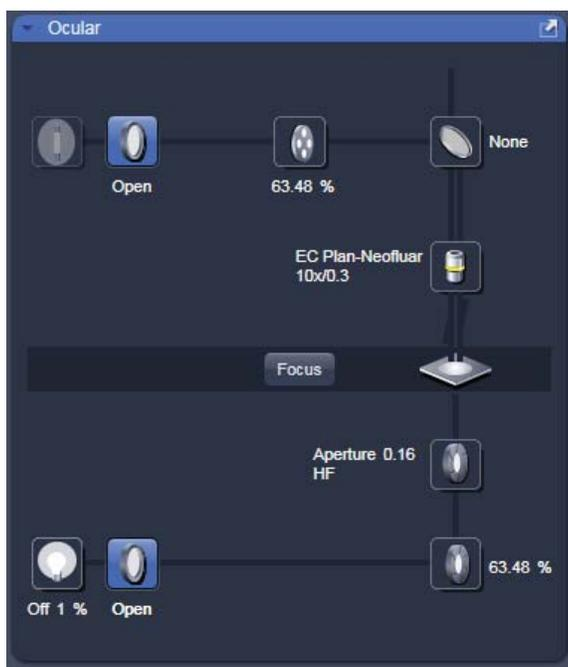

Fig. 11 Microscope Control window, e.g.: Axio Imager.Z1
Click on the **Ocular** tab for direct observation; press the **Online** button for your actions to take effect immediately. Then open the **Ocular** tool to configure the components of your microscope like filters, shutters or objectives (Fig. 11).
- Open the graphical pop-up menu by clicking on the **Objective** symbol and select the objective lens for your experiment (Fig. 11).